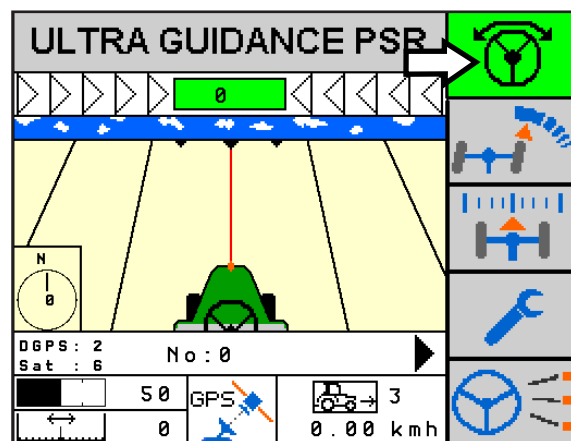

Fig. 24: Steering system engaged – engage steering key green
- Press the engage steering key in the PSR mask (see Fig. 24);